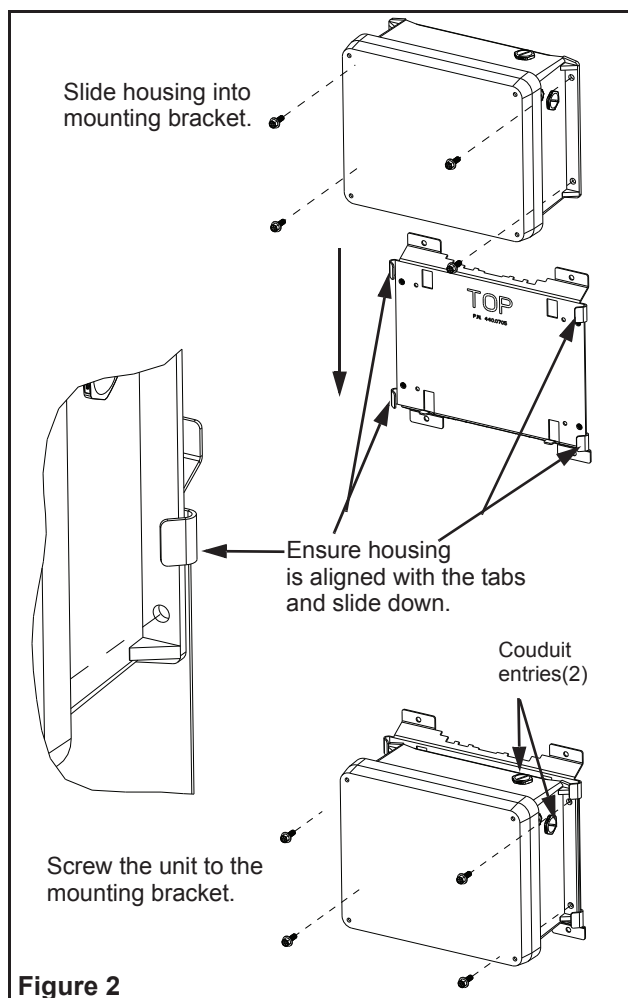

Figure 2
- a. The universal mounting bracket is an accessory ordered separately (See figure 2).
- d. Slide the unit into the tabs located on both sides of the unit until it sits on the bottom lip of the bracket (See figure 2).